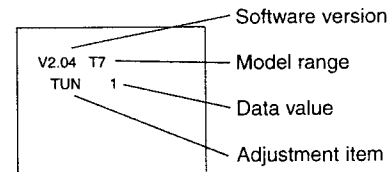

fig. 2.1B Options adjustment display
2. Press the * button to toggle between the OPTION and VCJ adjustment displays (figs. 2.1B and 2.1C):